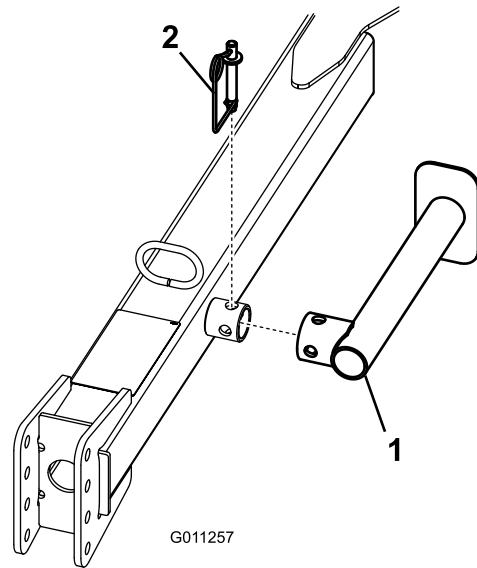

Figure 8
3. Remove the spring pin, rotate the jack down and install the spring pin (Figure 8).